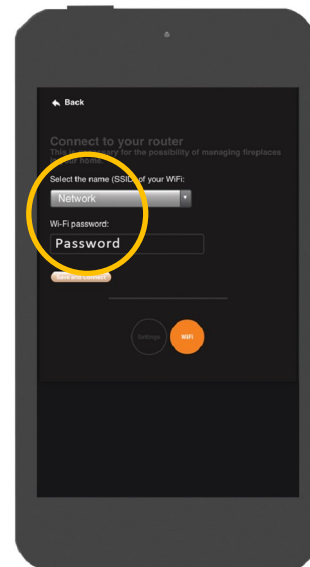

Fig 4.
7. You will then see a screen to connect to your home wifi. (Fig 4)